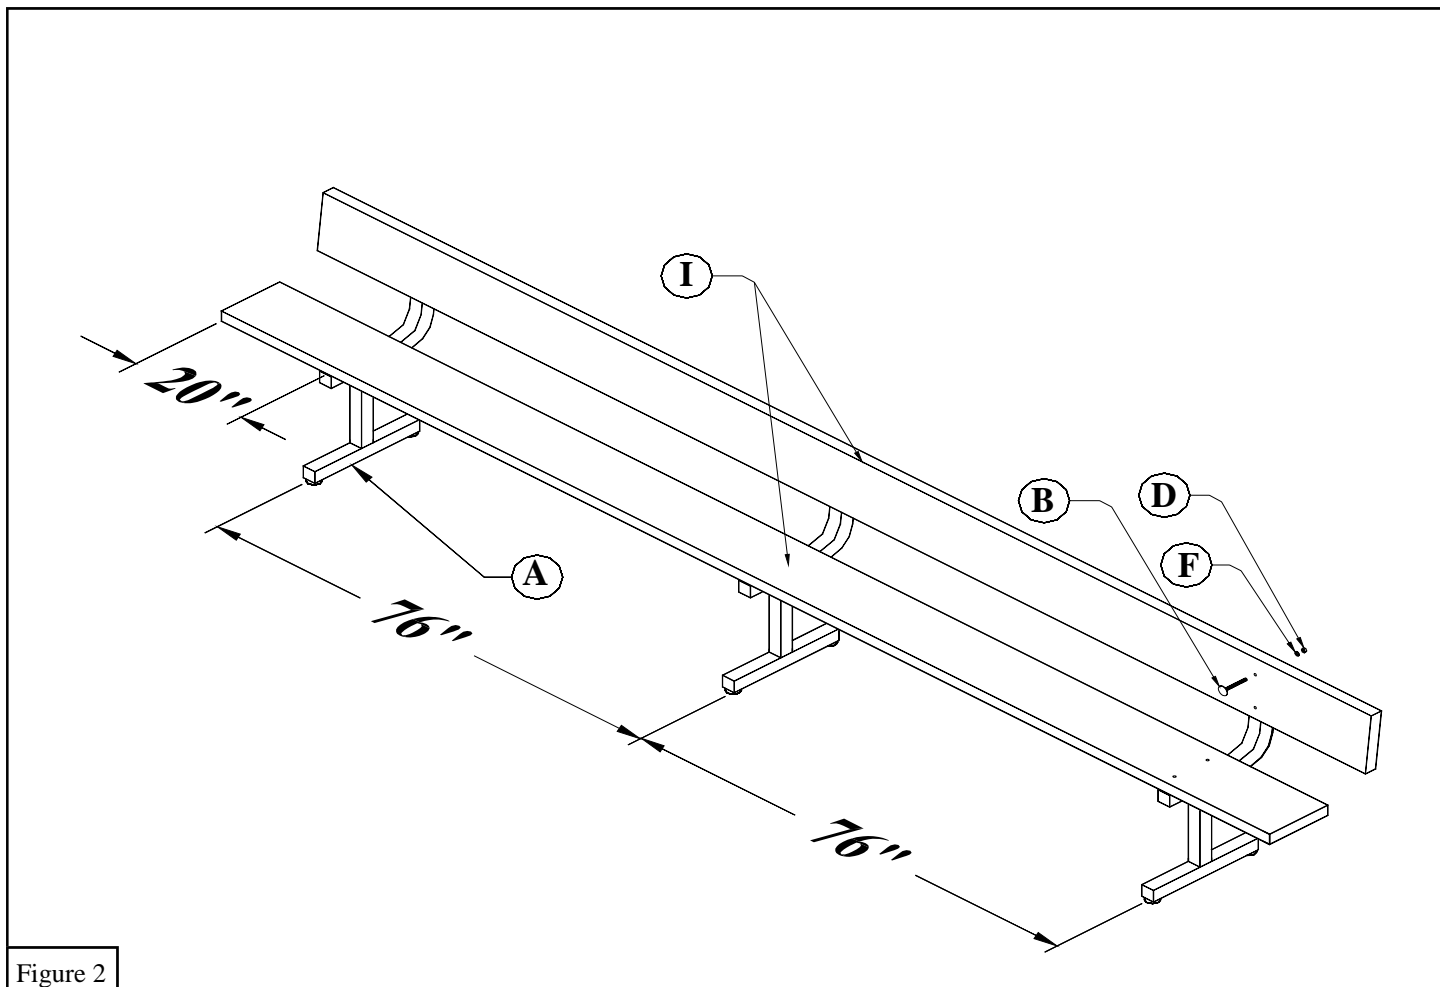

Figure 2
3. Position *Leg Assemblies* (A) 76" apart. Clamp one 2" X 10" X 16' *Wooden Plank* (I) to the seat portion of *Leg Assemblies* (A) with approximately 20" extending from each end of *Leg Assembly* (A). Make sure the *Leg Assemblies* (A) are perpendicular to the 2" X 10" X 16' *Wooden Plank* (I). Clamp the second 2" X 10" X 16' *Wooden Plank* (I) to the back rest area of the *Leg Assemblies* (A) with approximately 20" extending from each end. See Figure 2.
4. Using the mounting holes in the *Leg Assembly* (A) as a guide to drill through the 2" X 10" X 16' *Wooden Plank* (I) with a 3/8" drill bit. Use the 3/8" X 4" *Carriage Bolts* (B), 3/8" *Lock Washer* (F) and 3/8" *Hex Nuts* (D) to secure the 2" X 10" X 16' *Wooden Plank* (I) to the *Leg Assemblies* (A). See Figure 2.